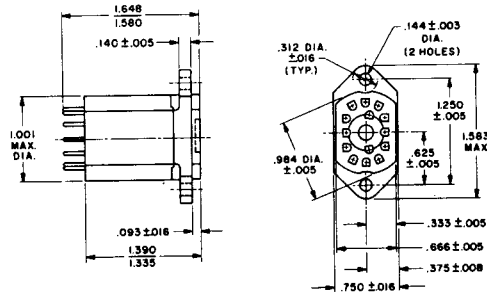

Figure 1. OUTLINE DRAWING
- Outline drawing ..... Figure 1